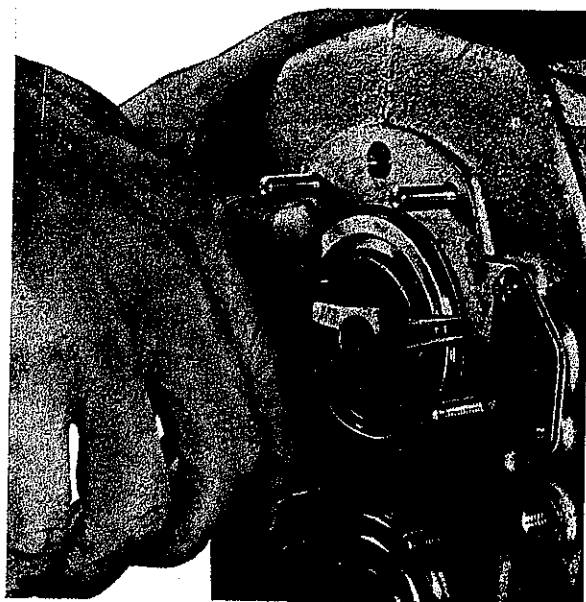
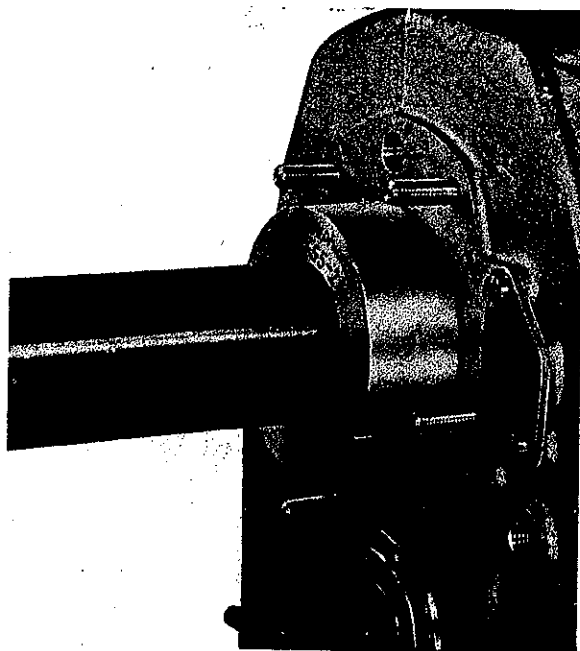

Fig. 4
Fig. 5
- 4.3 Remove tachometer worm (432). Remove circlip (431) from groove of ball bearing (Fig. 4). Pull off ball bearing (430) with special tools .4. and .5. (Fig. 5).